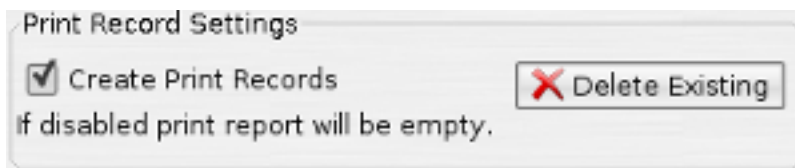

Figure 11.13. Print Record Settings
2. Under the "Print Record Settings" section to disable print records make sure the checkbox labeled "Create Print Records" is NOT checked see Figure 11.13, “Print Record Settings”.
3. To delete existing print records under the "Print Record Settings" sections and click the Delete Existing button see Figure 11.13, “Print Record Settings”.